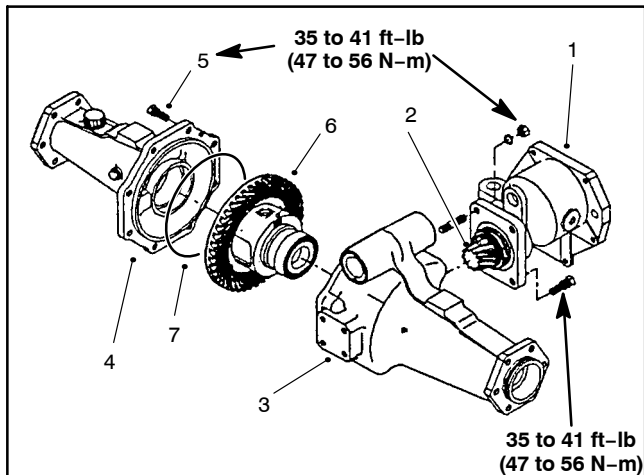

Figure 32
3. Remove input shaft/pinion gear assembly, shims and O-ring from the axle support (Fig. 32).